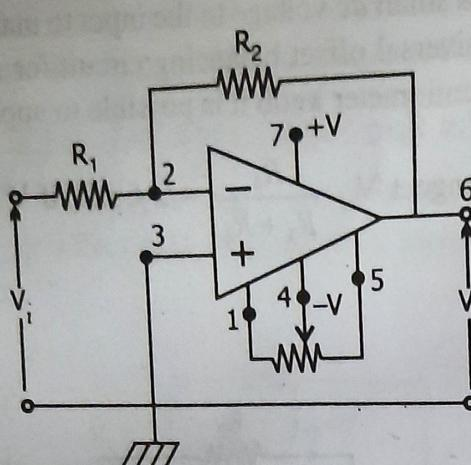

Fig. 6.4-1
**6.4(A) To study the use of OP AMP as (a) an inverting amplifier, (b) a non-inverting amplifier, (c) a unity gain buffer, (d) an adder and (e) a differential amplifier :**
• **Theory :** (a) The circuit diagram of an inverting amplifier using OP AMP is shown in Fig. 6.4-1. The closed loop gain of the inverting amplifier is